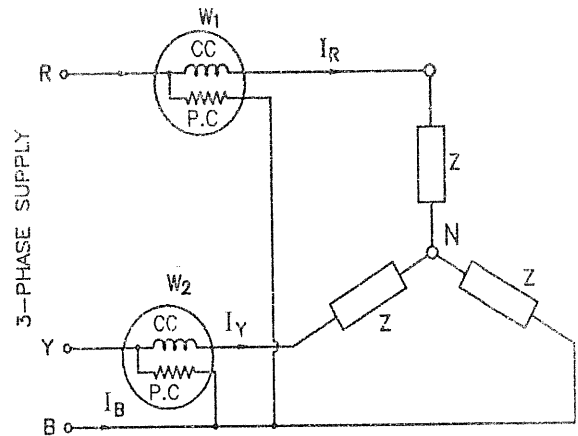

FIG. 2.89 : MEASUREMENT OF POWER BY TWO WATTMETER METHOD (STAR CONNECTED LOAD)
- In this method two wattmeters are connected as shown in Fig. 2.89.
- Fig. 2.89 shows 3-phase star-connected balanced load with two wattmeters connected in the circuit to measure total power input to the load.